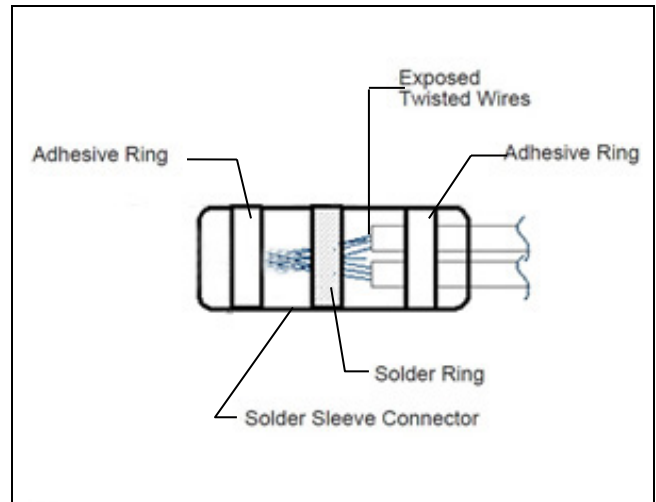

Figure 11
10. Slide a red solder sleeve over the end of the twisted pair and position the red solder sleeve connector so that the solder ring is in over the two twisted wires as shown in Figure 11.